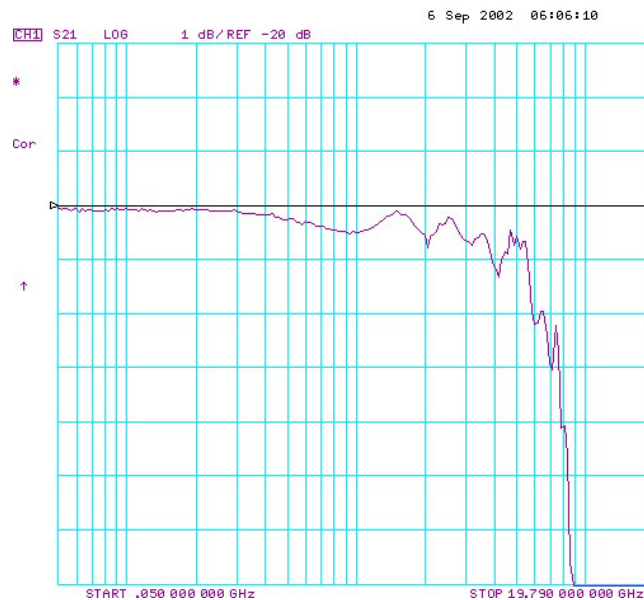

Figure 222 Typical V_{out} Waveform for an 1134A Probe
- 43 The display on screen is V_{out} and it should be similar to that shown in **Figure 222** on page 196.